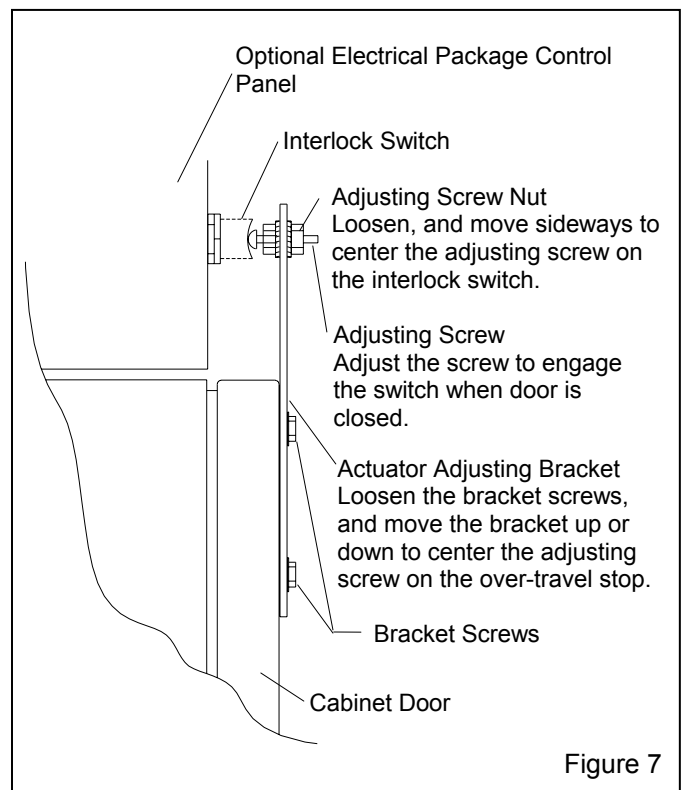

Figure 7
5.6 Door Interlocks, Ref. Figure 7 Standard with optional electrical package